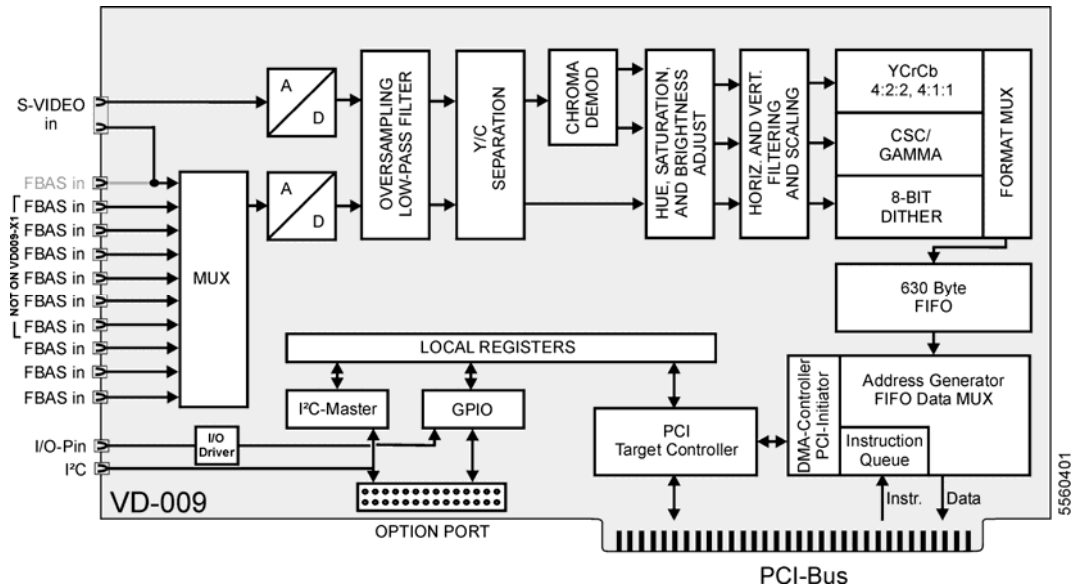

Figure 44: Block diagram
Figure 44 shows the block diagram of the pciGrabber-4plus. The composite input signal is connected to a 9:1-video multiplexer (VD-009-X1 only), which is controlled by software. The following A/D-converter digitizes this signal. All image sources which provide a color video signal corresponding to the CCIR- standard „PAL (B,D,G,H,I)“, „NTSC (M)“ can be used.